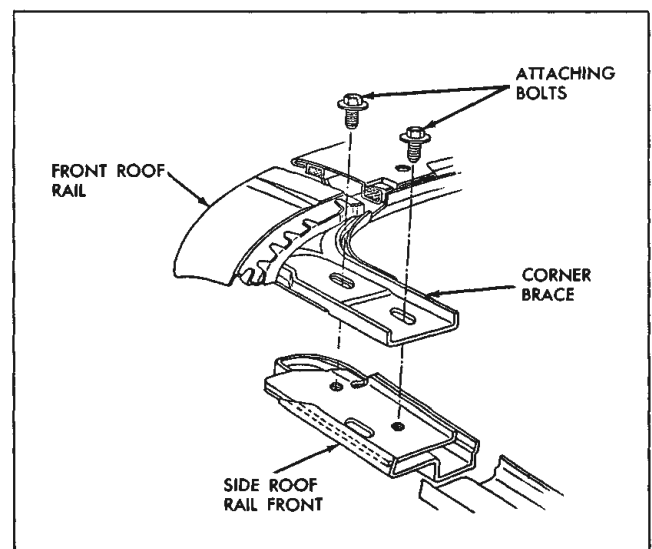

Fig. 22-22 View "A" in Fig. 22-21
2. Loosen corner brace attaching bolts and adjust front roof rail fore or aft as required. Repeat on opposite side if necessary (Fig. 22-22).